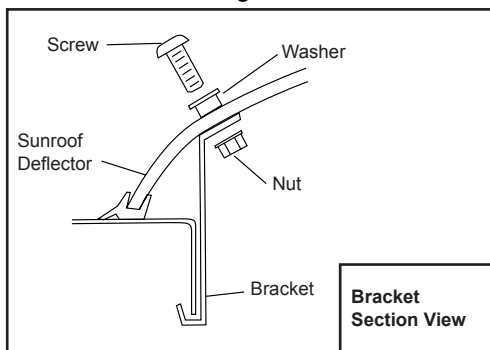

Fig. 2
d) Thoroughly clean the locations where the brackets will mount. See Fig. 2